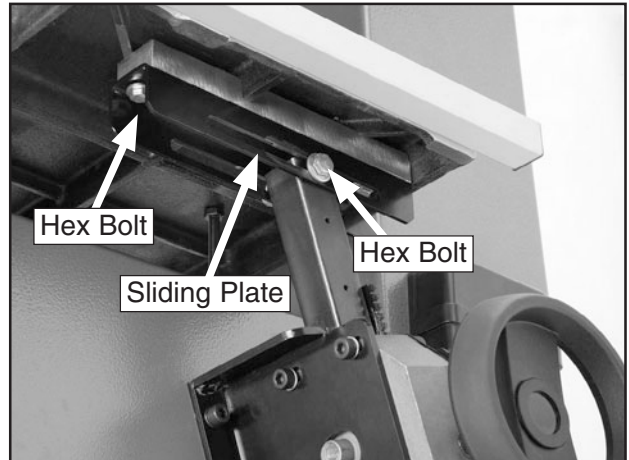

Figure 29. Sliding plate secured to table.
6. Raise the sliding plate up and secure it to the bottom of the table with the hex bolts and flat washers, as shown in Figure 29.